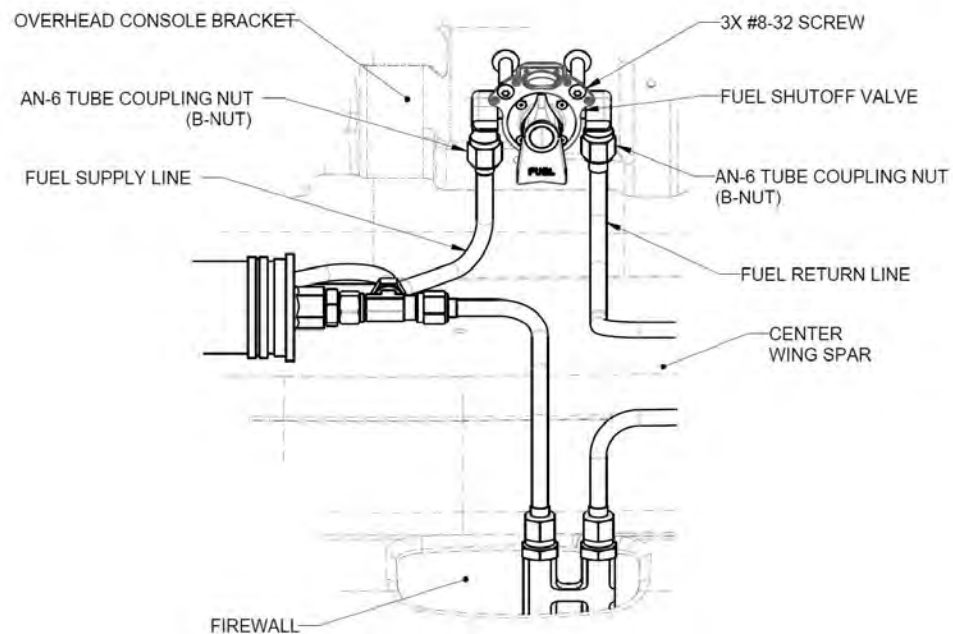

FIGURE 10-26
4. Loosen the AN-6 B-nut at each end of the Fuel Shutoff Valve. (See Figure 10-26.)